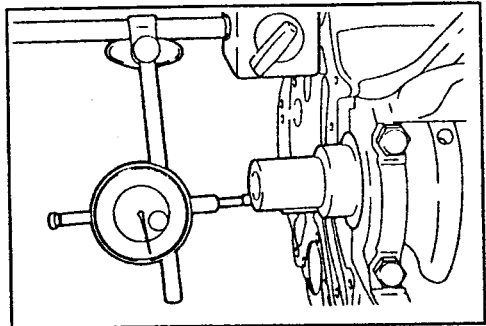

Fig. 15.21. — Checking the crankshaft end float.
- Rotate the crankshaft a few turns to check for binding. The crankshaft end float must now be checked as shown in Fig. 15.21. If the end float is more than 0.25 mm (0.010 in.), the centre bearing shells will need to be replaced. As the crankshaft end float